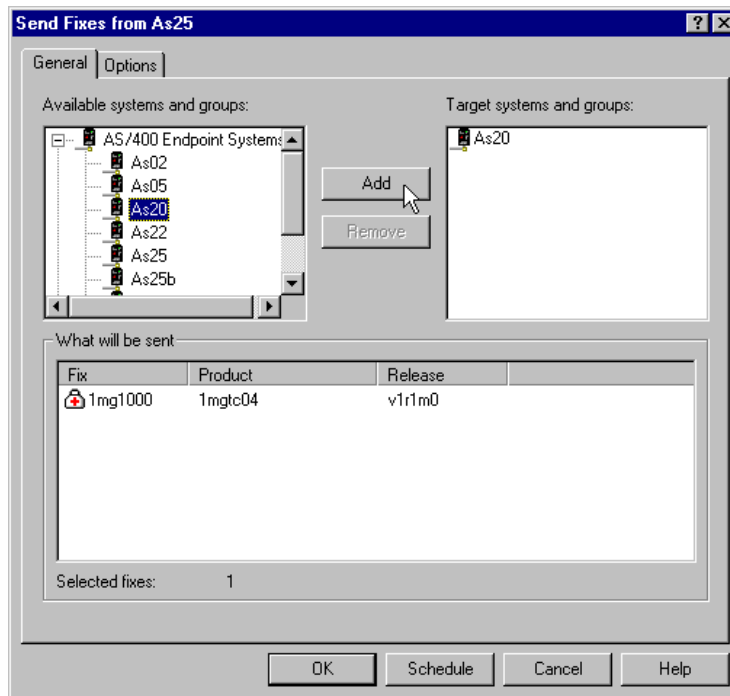

Figure 84. Send Fixes: General window
8. Right-click the last fix selected, and then click **Send** to open the Send Fixes window as shown in Figure 84 on page 108.